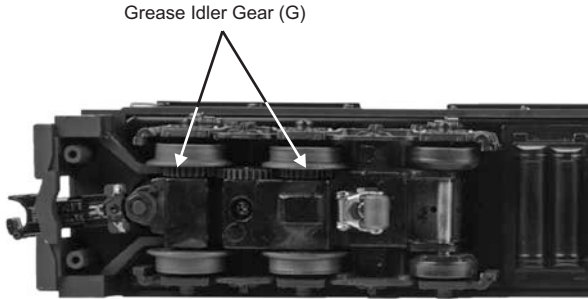

Figure 7: Greasing the Idler Gears
1. To access the gear box, remove the cab from the chassis by unscrewing the body mount screws as seen in fig. 7 and lifting the cab from the chassis.
2. Once the cab is removed, remove the trucks by unscrewing the black Phillips motor mount screw located on the underside of the drive trucks (fig. 7).